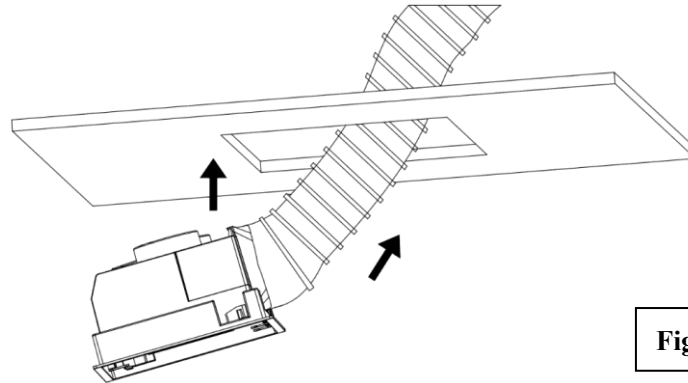
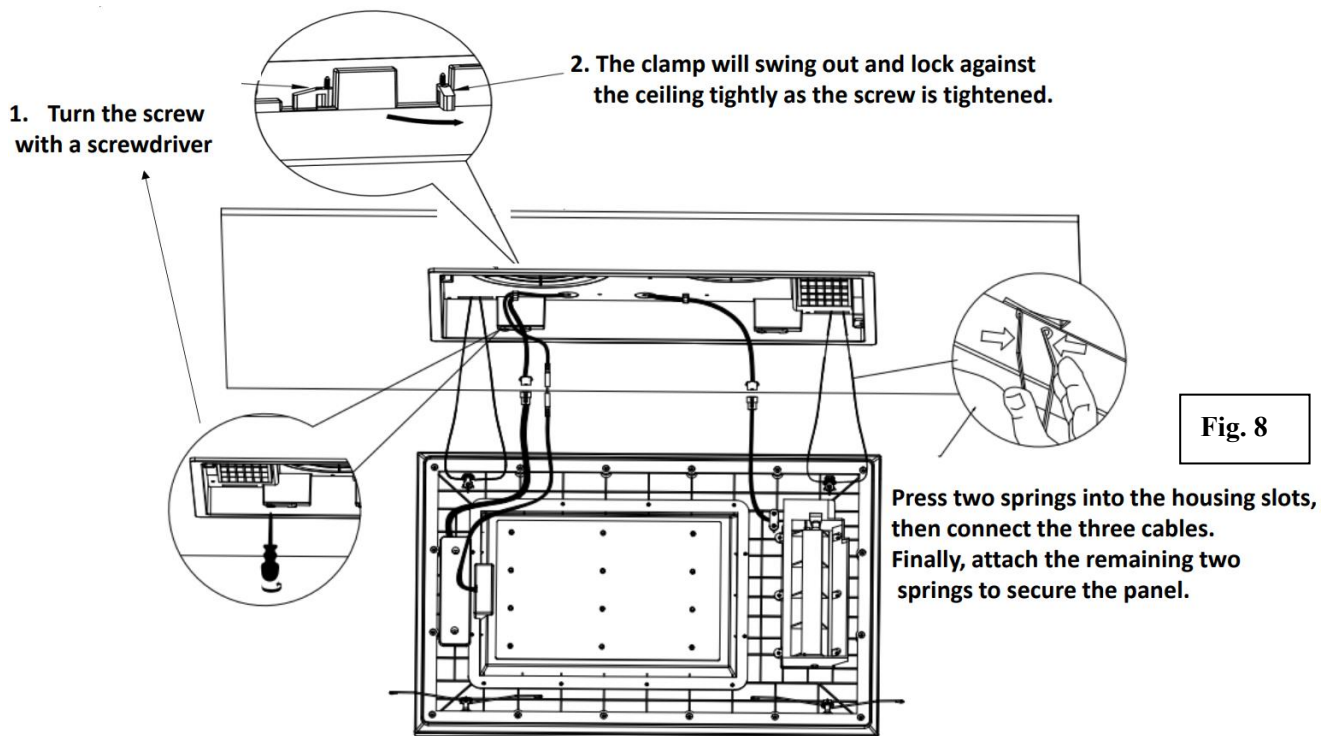

Fig. 7
Fig. 8
10. Insert the THERMABREEZE unit (without the fascia) into the installation hole and push up. (Fig. 7) Ensure the 5 mounting clips (Fig. 8) are pushed into the body of the unit and do stick out when inserting the THERMABREEZE into the installation hole. Once inserted into the installation hole, use a screwdriver to tighten the screws on the until the mounting clips swing outside the body and clamp down onto the ceiling tightly. (Fig.8)
11. Insert the 2 sets of spring clips from one side of the fascia into the housing slots of the THERMABREEZE unit by pressing in the sides of each set. (Fig.8)